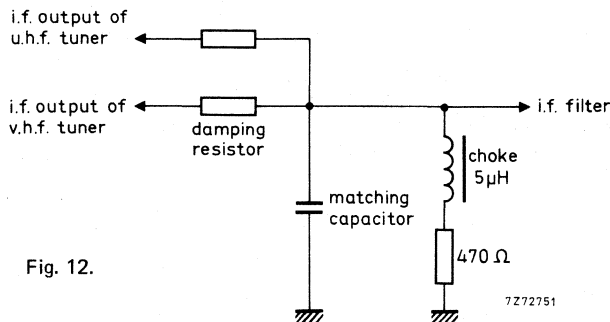

Fig. 12.
The tuner needs a d.c. path from the i.f. output terminal (T) to earth, preferably via a choke of approx. 5 μH outside the tuner (Fig. 12). Where the tuner is used in combination with a u.h.f. tuner, this choke can be common for both tuners; a resistor in series with the choke can inhibit the i.f. output circuit of the switched-off tuner. For damping the i.f. output circuit and matching the i.f. output impedance of the tuner to the receiver i.f. amplifier, a series resistor and a parallel capacitor as shown in Fig. 12 should be used (During v.h.f. operation the voltage across the 470 Ω resistor is 1 to 1,2 V).